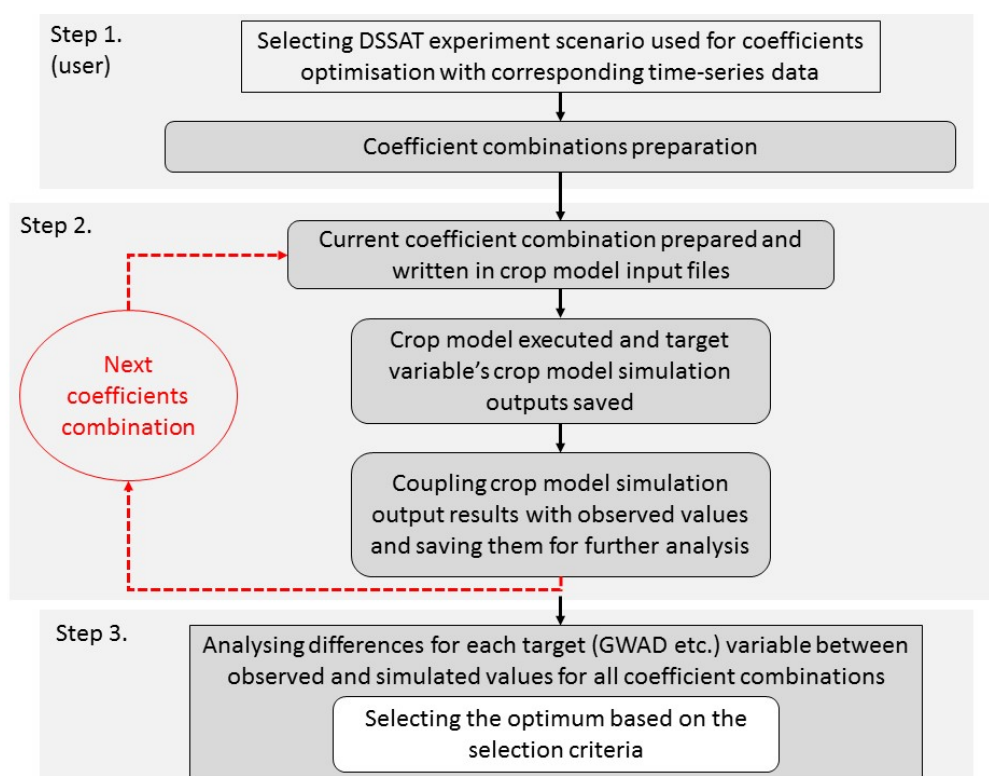

Figure 1: Flow chart showing overall program run in three steps (GWAD – grain weight) (Memic et al. 2020)
1. Selection of the FileX and corresponding treatments defined in FileX. Based on the selected experiment corresponding in-season observations (as time-series data) are read in as temporal inputs (all available time-series observations can be used), and cultivar coefficients designated for optimisation (phenology- and/or growth-related) are selected with desired coefficient ranges (Figure 1, step 1).
2. For each cultivar coefficient combination defined in first step crop model is executed with simulated outputs being coupled with in-season observations and saved for later analysis (Figure 1, step 2).